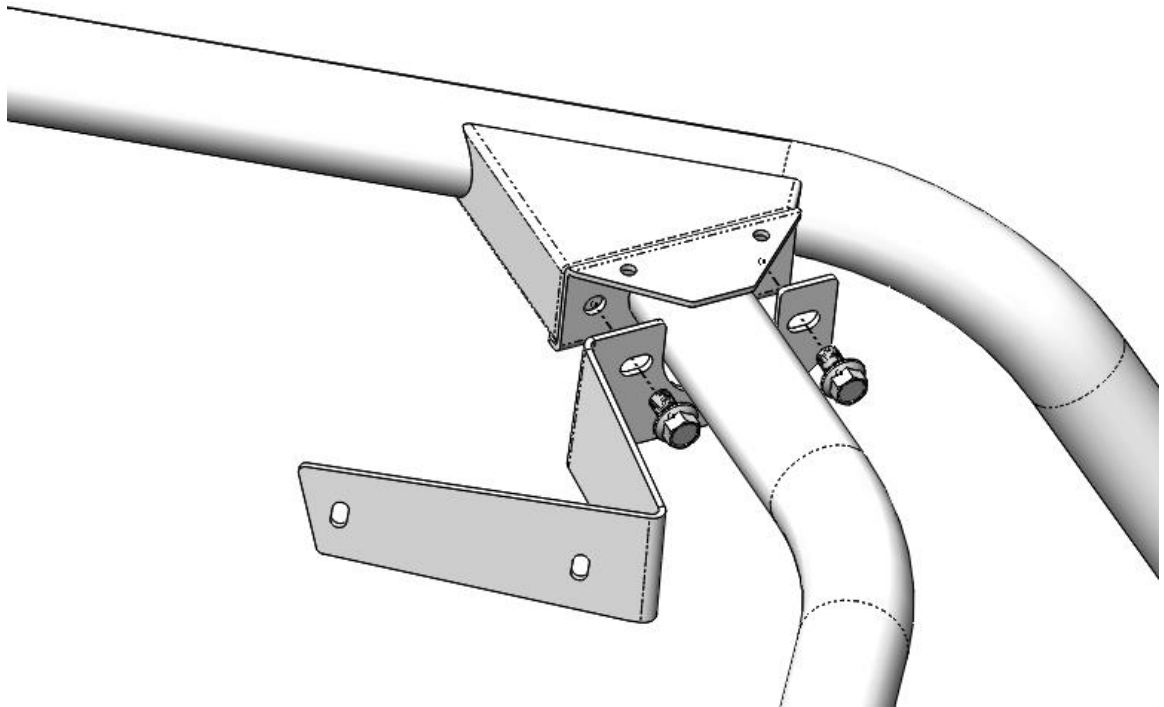

Figure 5: Mounting location of *Audio Mini* bracket. (Left side shown, right side similar)
2. Place the bracket on the inside of the cross member. Use the supplied M10 bolts, and loosely tighten them to allow for adjustment of the *Audio Mini* placement. Verify correct orientation of the mounting bracket. See Figure 5.